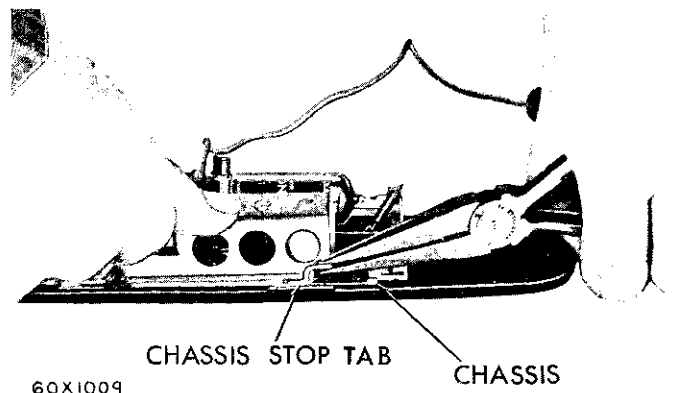

Fig. 29—Bending Chassis Tabs
(3) If flip angle was incorrect, bend the chassis top tab (Fig. 29) rear the solenoid, toward glass to reduce flip angle or away from glass to increase flip angle. Do not bend the tab more than **one or two degrees** or the solenoid will not operate properly.
(4) Should it be necessary to separate the glass from the chassis it can be done by releasing the chassis return springs and disengaging the mirror from the chassis pivots.